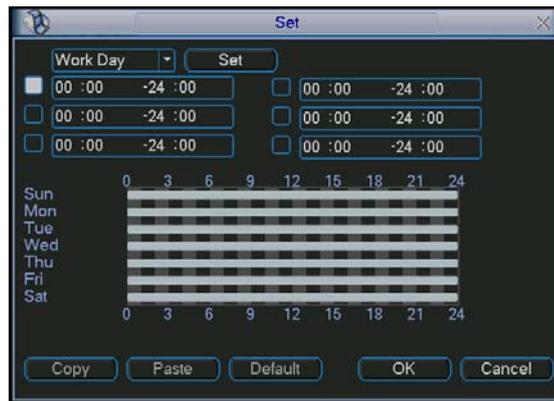

Figure 4-29
- Period: Click set button, you can see an interface is shown as in Figure 4-29. Here you can set for business day and non-business day. In Figure 4-29, click set button, you can see an